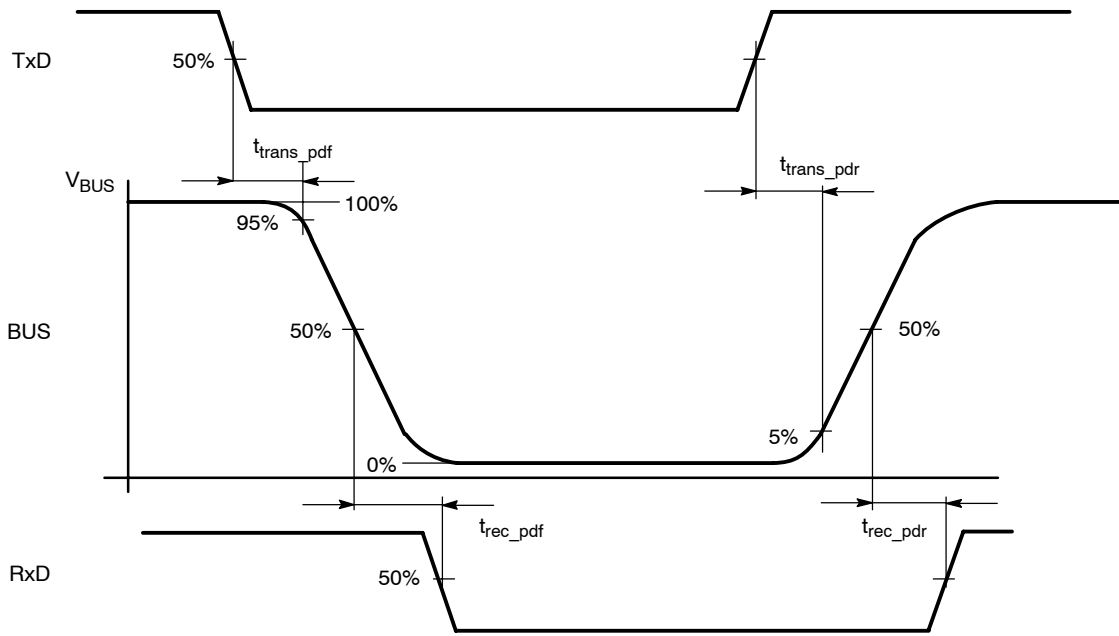

Figure 2. Input/Output Timing
12. See Figure 2 – Input/Output Timing.